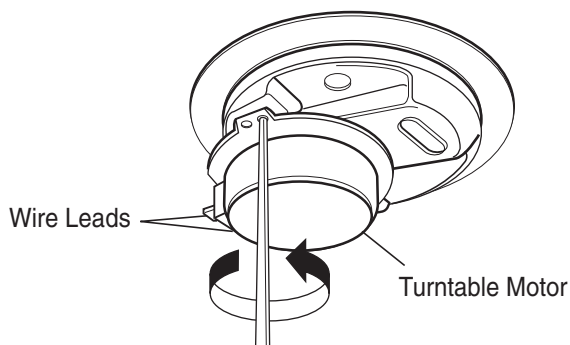

Figure 22-b
- (3) Remove the base plate by removing 7 screws securing it to the oven cavity. (Figure 22-a)
- (4) Disconnect the leadwire from the turntable motor terminals.
- (5) Remove the 2 screws securing the turntable motor to the oven cavity ASS'Y. (Figure 22-b)